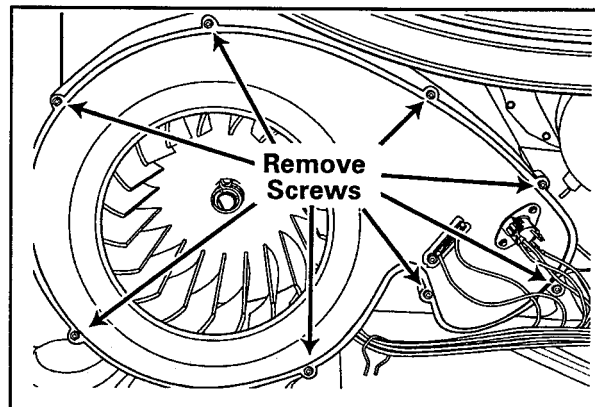

Figure 7-3
2. Remove eight screws holding cover to blower housing. **(See Figure 7-3)**